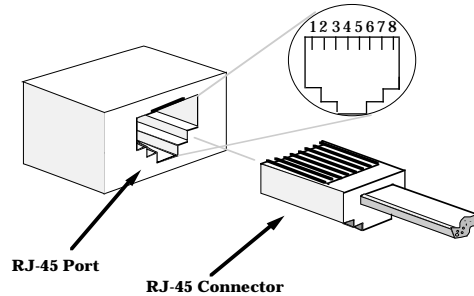

Figure 3-2. RJ-45 Connector
- Verify that the RJ-45 connector on the twisted pair segment has the proper pinouts (see Figure 3-2, above).